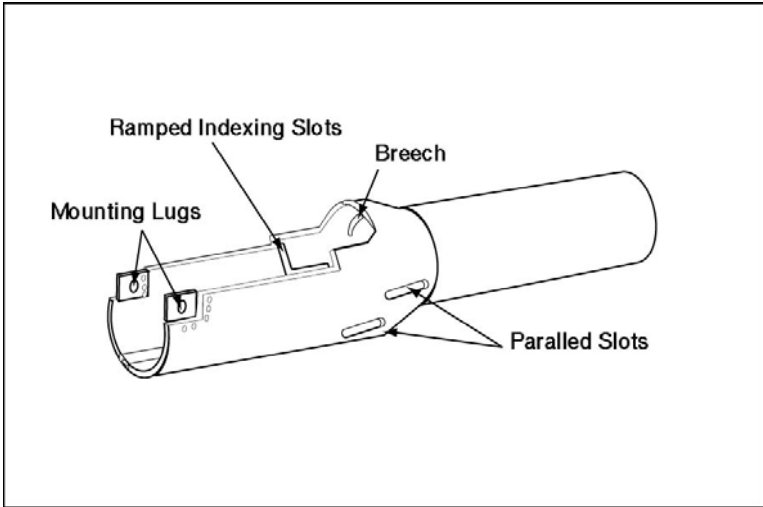

Figure 2-2-2: Launch Tube
12. **Launch Tube.** The launch tube is constructed of a lightweight honeycomb material, covered with laminated fibreglass, which acts as a breech and holds the encased missile on the launcher. The launch tube provides initial trajectory and stability to the missile, and protects the gunners from the motor blast when the missile is fired. The launch tube mounts on the trunnion of the traversing unit by means of two mounting lugs and a location pin, which is secured by the launch tube latch. The breech is about 65 cm forward of the trunnion. The tube is U-shaped from the breech back to the mounting surface and contains ramp indexing slots which accept the index lugs on the missile launch container for the proper alignment of the encased missile. The tube has its centre of gravity just behind the breech and has three parallel slots on the bottom of the tube. These slots are 12 cm long and 3.7 cm wide, and provide a grip for carrying. Two additional drain slots are provided to prevent accumulation of debris (see Figure 2-2-2).